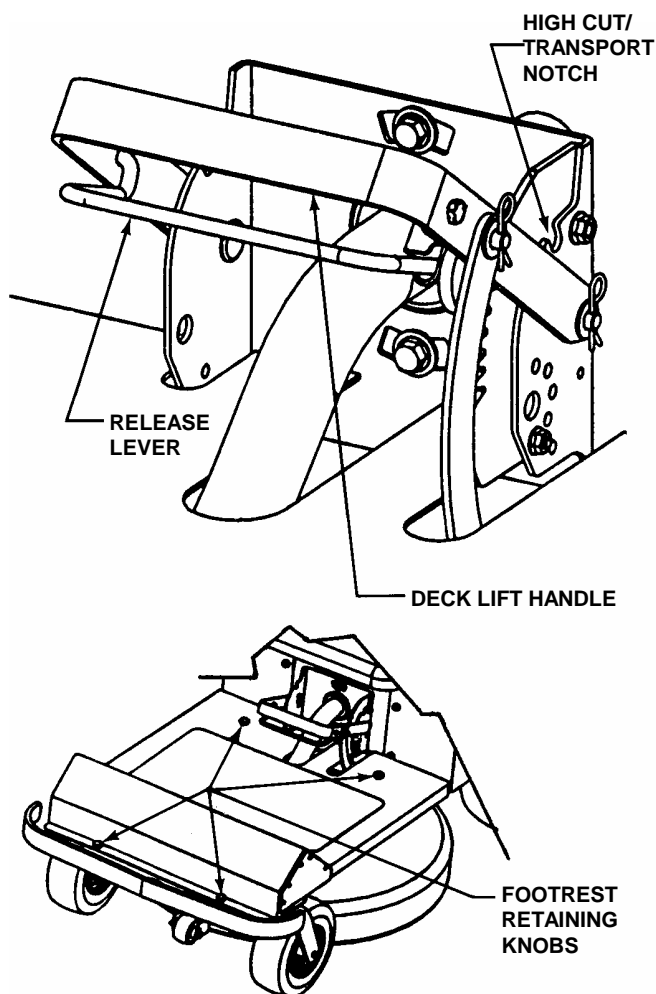

FIGURE 3.3
- Remove retaining knobs located at the corners of footrest. Remove footrest. See Figure 3.3.